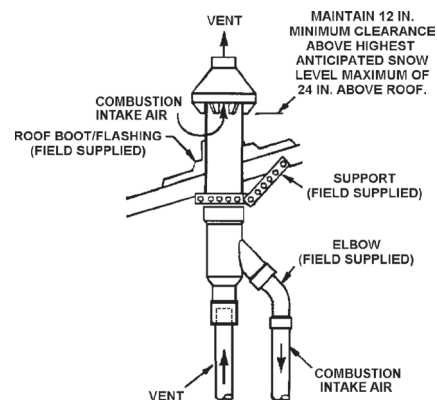

FIGURE 24.
INSTALLATION PROCEDURE 1 ROOF TERMINATION, see Figure 24.
- Secure assembly to roof structure as shown in Figure 24 using field supplied metal strapping or equivalent support material.
NOTE: Ensure termination height is above the roof surface or anticipated snow level as shown in Figure 24.
- Cement water heater combustion air intake and vent pipes to concentric vent termination assembly. See Figure 24 for proper pipe attachment.